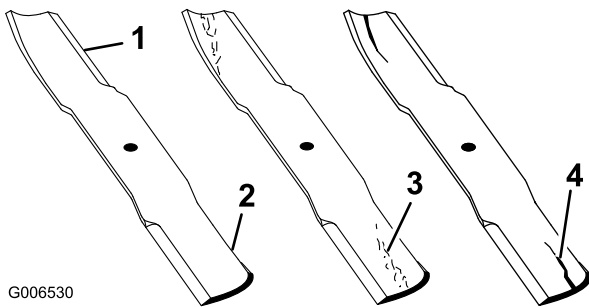

Figure 44
1. Inspect the cutting edges (Figure 44). If the edges are not sharp or have nicks, remove and sharpen the blades. Refer to Sharpening the Blades.
2. Inspect the blades, especially the curved area (Figure 44). If you notice any damage, wear, or a slot forming in this area immediately install a new blade.